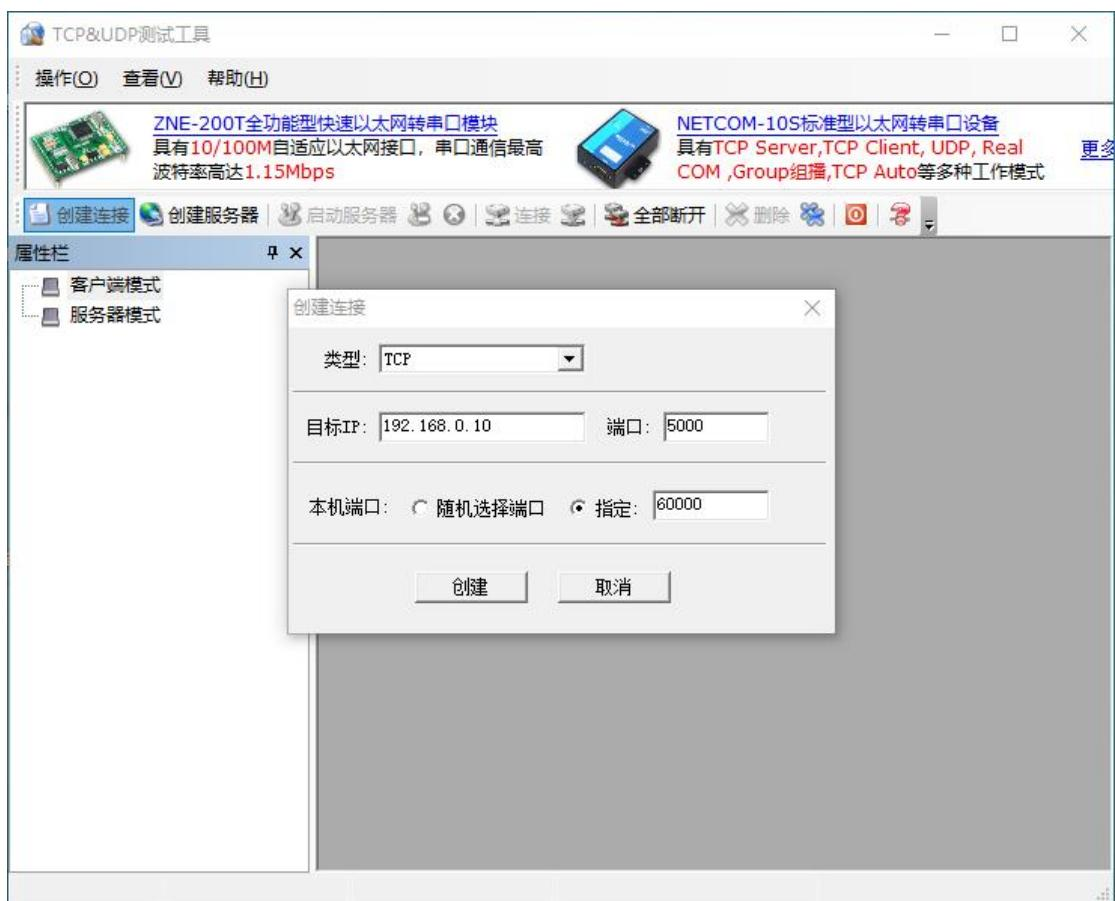

Figure 6-18 TCP Client Creation
- 3) Set the computer IP to 192.168.0.1 (consistent with the remote IP set in the module), and open "TCP & UDP Test". "Test Tool", set the connection port to 60000, and set other parameters as shown in Figure 6-18.